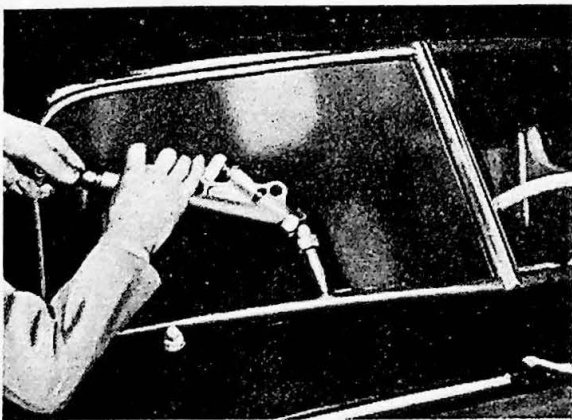

Fig. 30.
7. Press in the sealing compound under the outer flanges of the rubber weatherstrip. See Fig. 30.